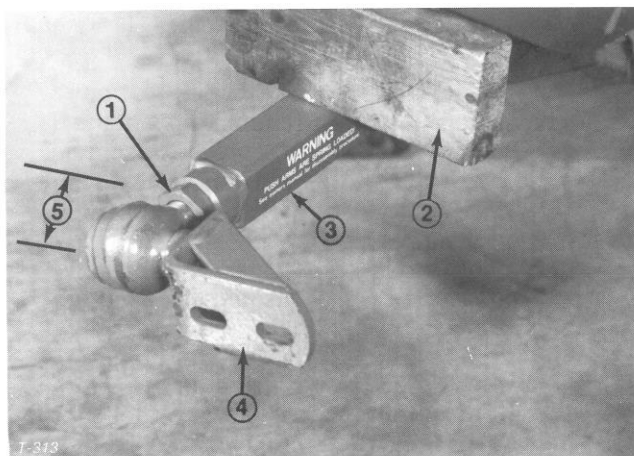

Figure 14
4. Have a helper push down on the left push arm; then insert a 2 x 4 in. (51 x 102 mm) block of wood between the frame and top of the push arm (Fig. 14). Screw ball joint into left hand push arm
until center of ball joint is 2-3/8 inches (60 mm) away from front of push arm (Fig. 14). Do not tighten jam nut.